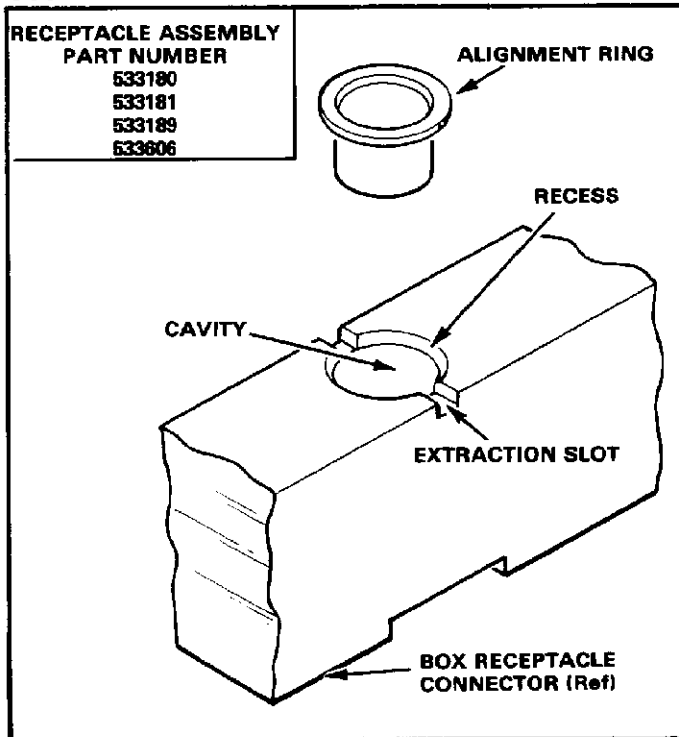

Fig. 1
2. DESCRIPTION (Figure 1)
The box receptacle assemblies listed in Figure 1 are designed for installation of the alignment ring(s) in the coaxial contact cavities. The coaxial contact cavities of the receptacles feature a recess for the flange of the alignment ring and extraction slots for removal of the alignment ring, if necessary. One alignment ring will be provided with each coaxial contact purchased for use in the listed receptacle assemblies.